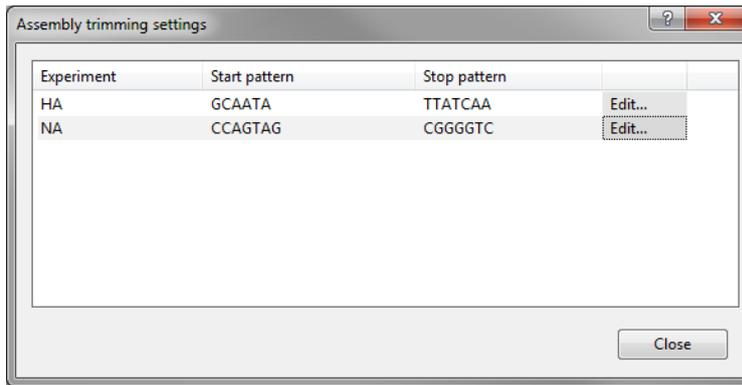

Figure 15: The *Assembly trimming settings* dialog box.
22. Press **<Close>** to close the *Assembly trimming settings* dialog box (see Figure 15).